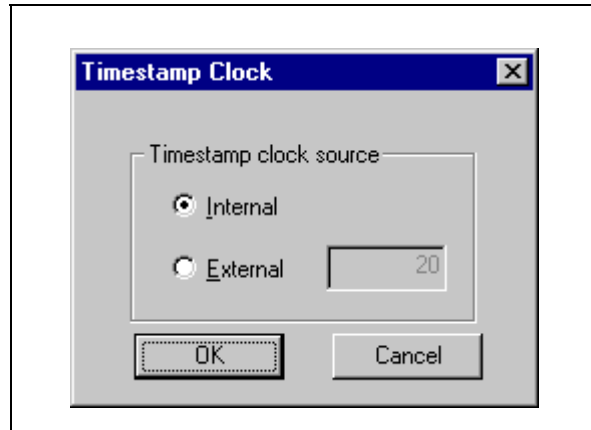

Figure 12: Timestamp clock source dialog box
The Timestamp clock can be configured using ST9+ Visual Debug. Open the Trace window by selecting, from the main menu, **View>Trace**. With your cursor in the Trace window, right-click to obtain the Trace contextual menu, and then select **Emulator Commands>Set Timestamp Clock**. The Timestamp Clock dialog box, shown in Figure 12 on page 28, will appear.
- or the ST9+ OSCIN source—in this case, you must check the **External** radio button of the dialog box shown in Figure 12 and enter the frequency of the external OSCIN source.